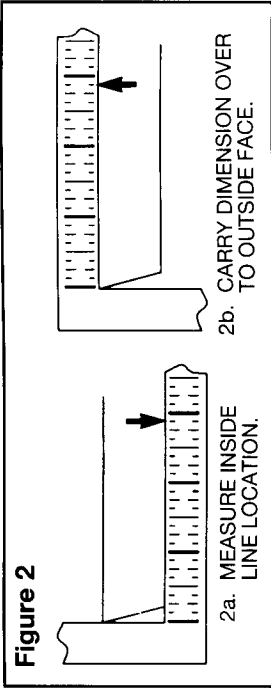

Figure 2
2. After marking door inside face for device location (Device Instructions), carry "Vertical Reference Centerline" from inside door face. Follow steps 2a. and 2b., in Figure 2 below.